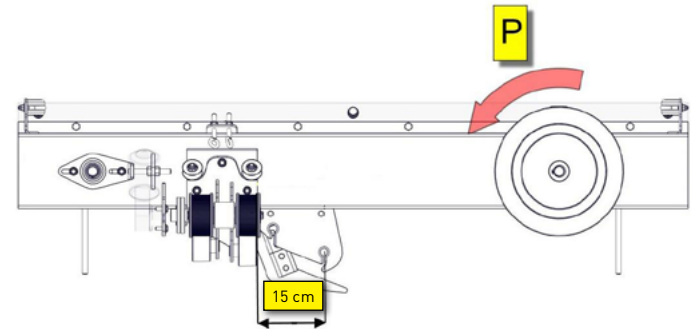

Fig. 13. Cord guide.
- Make sure that the home position of the cord guide is exactly as shown in Fig. 13. Otherwise turn the pulley P counter-clockwise to reach the correct position.